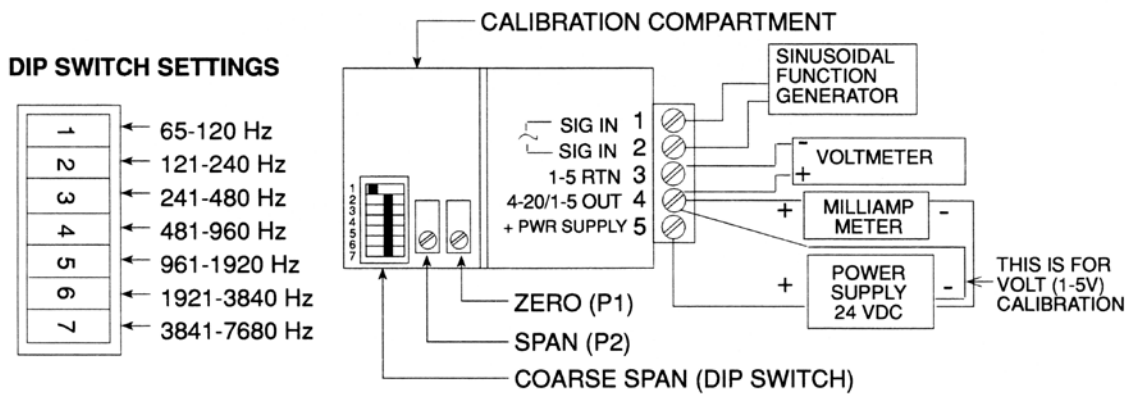

Figure 5A. FLSC-45 Calibration Setup
2. Connect the power supply, milliamp meter and the frequency generator to signal conditioner as shown in Figure 5A for 4-20 mA or 1-5 Vdc calibration.
6. Set the coarse range adjustment by selecting a switch position on the DIP switch inside the calibration compartment. Set the correct switch position so that the F (Max) falls within the range you select. Refer to Figure 5A for ranges and DIP switch location.